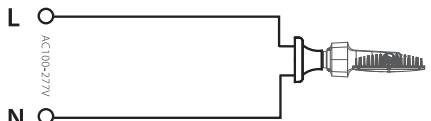

Fig.3
3. Screw the LED lamp into the corresponding socket. (Fig.3)